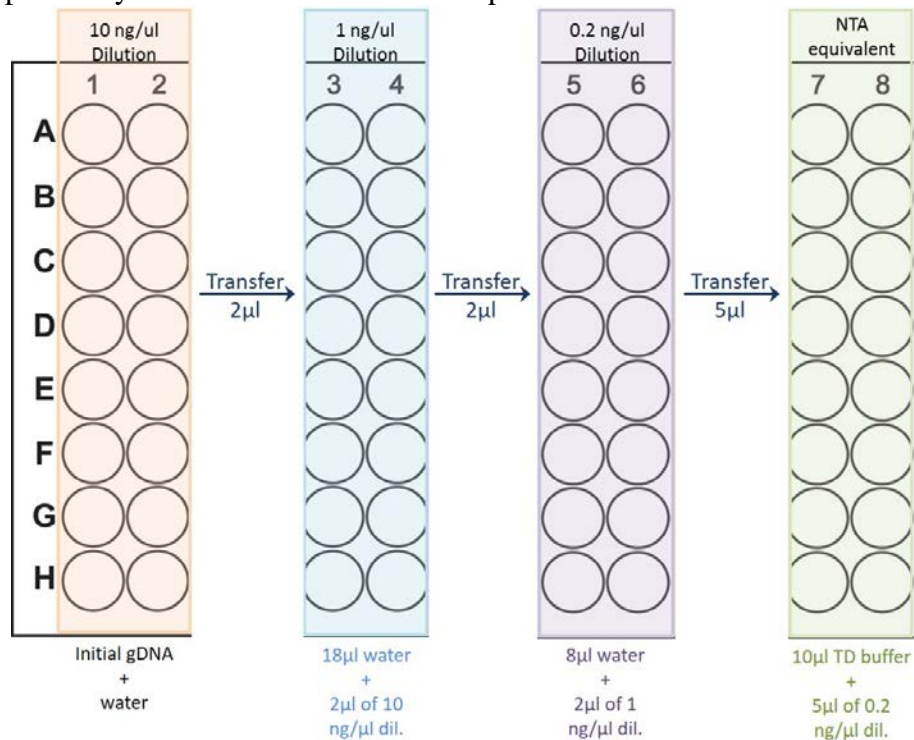

Figure 1: Suggested Dilution Plate Set Up and Labeling Scheme for Normalization of 16 Samples.
9.2.1. Label the dilution plate (96-well PCR plate), designate wells for 10 ng/μl, 1 ng/μl, 0.2 ng/μl dilutions, as well as for “NTA” wells. The labeling scheme below is recommended for the dilution plate. Figure 1 (below) is an example of the labeling scheme for a run with 16 samples. This plate may be referred to as the “NTA plate”.